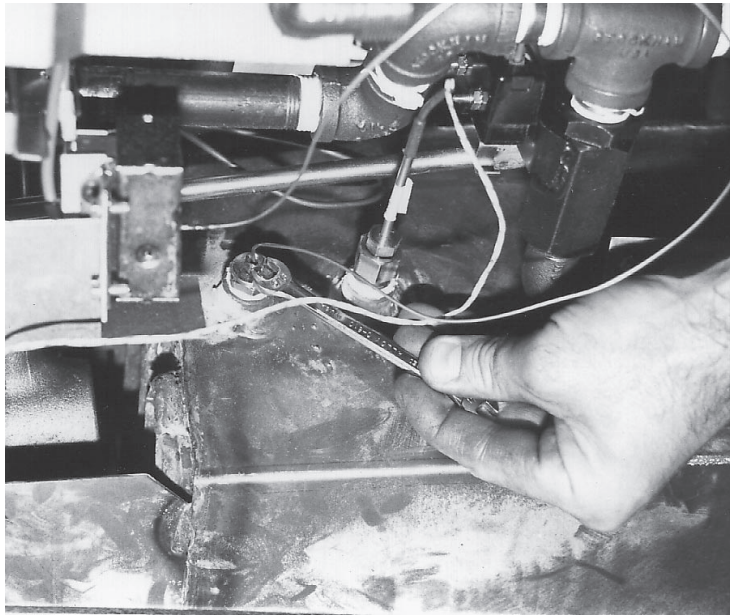

Fig. 81
19. If servicing a D or C model with a 5/16" wrench remove the hi limit packing nut. For S models use a 1/2" wrench. (Fig. 81)